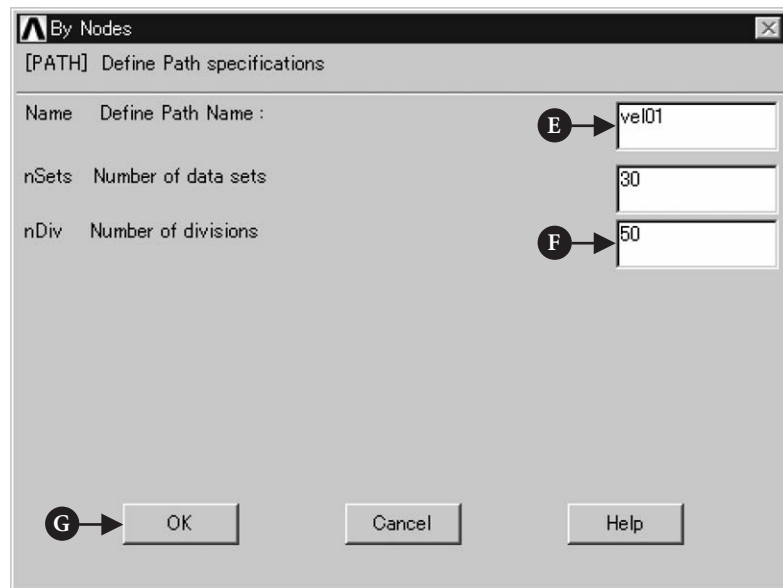
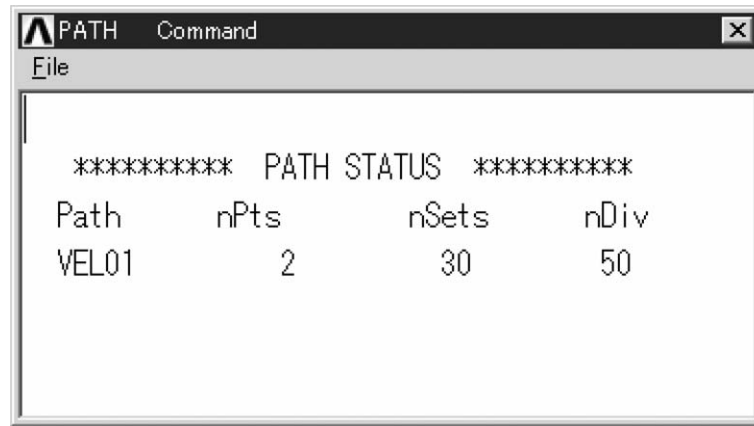

Figure 5.35 Window of By Nodes.
Figure 5.36 Window of PATH Command.
- (2) The window **By Nodes** as shown in Figure 5.35 opens. Input the path name [E] **vel01** to **Name** box [F] 50 to **nDiv** box and click [G] **OK** button. Then the window **PATH Command** appears as shown in Figure 5.36, which explains the content of the defined path. Close this window by clicking X mark at the upper right end.